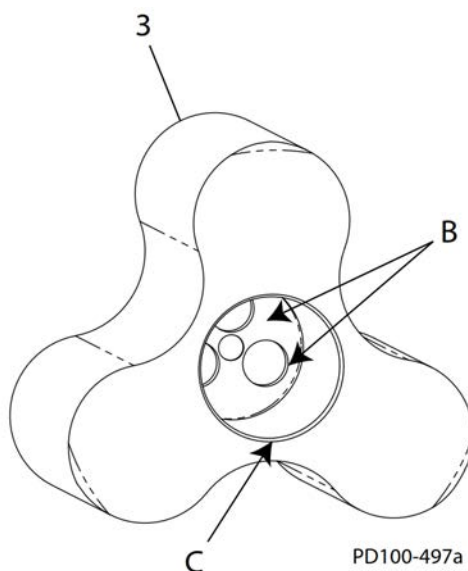

Fig. 55: Rotor detail
1. The shaft bore of the rotors (Figure 55, item 3) must be clean and free of burrs and debris (Figure 55, item B). The edge chamfer (item C) must be free of burrs to prevent damage to the O-rings.